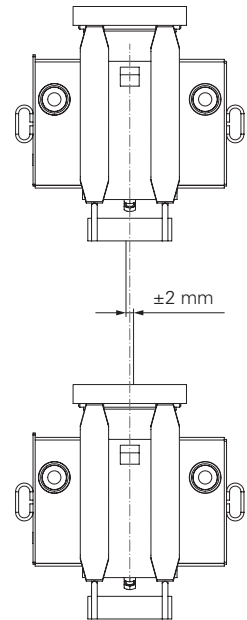

Fig. A3.32
- Climbing shoe II: ± 2 mm (Fig. A3.32)